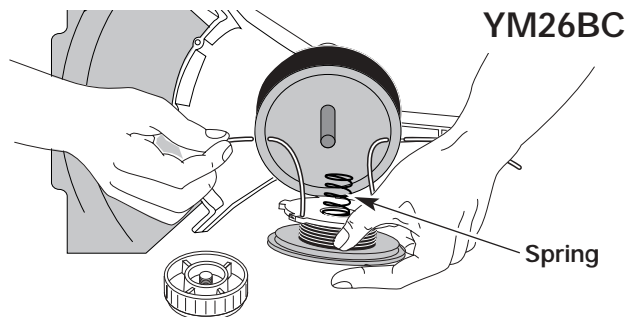

Fig. 44
13. Insert the ends of the line through the eyelets in the outer spool and place inner reel with spring inside the outer spool (Fig. 44 or 45). Push the inner reel and outer spool together. While holding the inner reel and outer spool, grasp the ends and pull firmly to release the line from the holding slots in the reel.
5. Insert the ends of the line through the eyelets in the outer spool (Fig. 44 or 45).